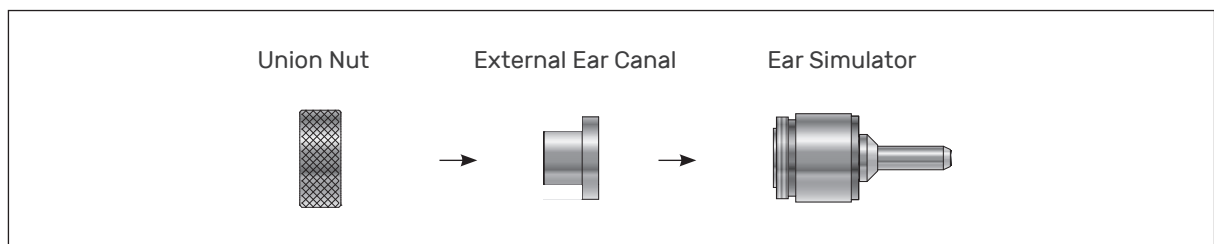

Fig. 13. Mounting the GR0408 External Ear Canal on the ear simulator.
2. Replace the Ear Simulator Holder with the External Ear Canal see Fig. 13.